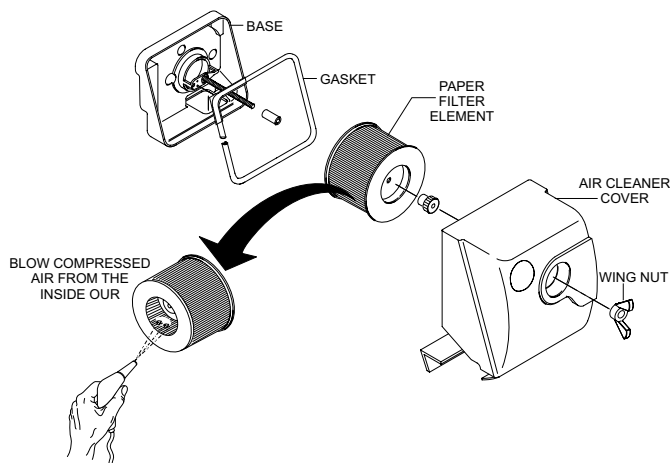

Figure 21. Engine Air Cleaner
This engine is equipped with a replaceable, high-density paper air cleaner element. See Figure 21 for air cleaner components.
1. Remove the air cleaner cover and high-density paper air cleaner element (Figure 21).